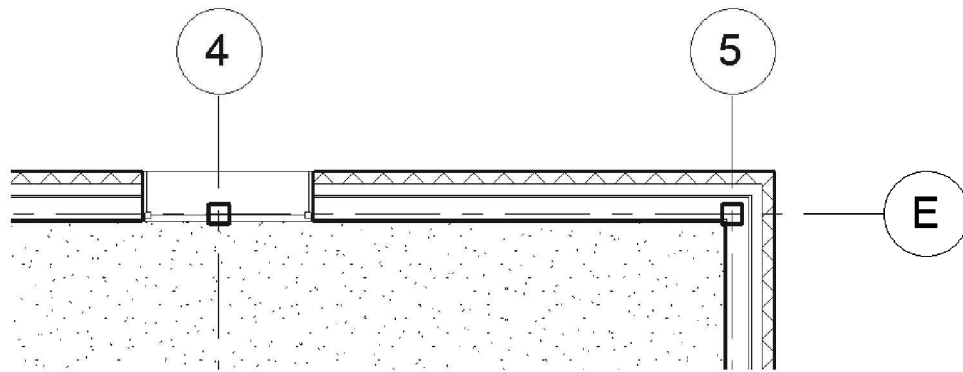

FIGURE 10-1.15 New window with column visible; plan view
29. Switch to the **Level 2 Architectural Plan** view to see the problem (Figure 10-1.15).